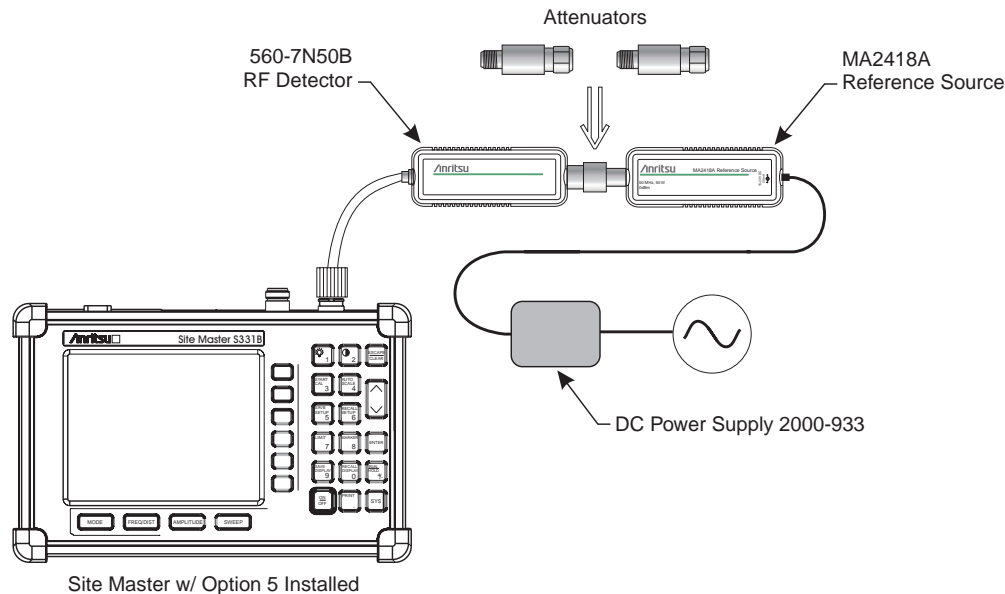

Figure 3. Power Monitor Verification
1. Connect the DC power supply to the MA2418A Reference Source. (Refer to Figure 3, page 4.)
10. Connect the output of the MA2418A Reference Source to the two attenuators so as to add 40 dB of attenuation (Figure 3).